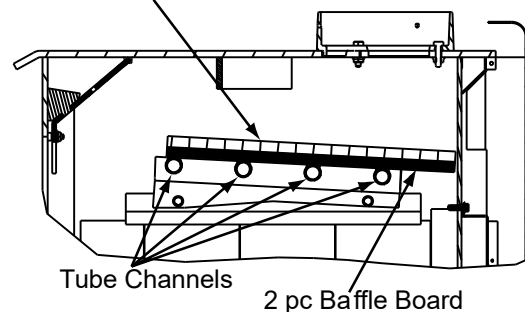

Figure 12.1
1. Confirm the baffle is correctly positioned. It should be even with the front tube and resting on all tubes (**Figure 12.1**).